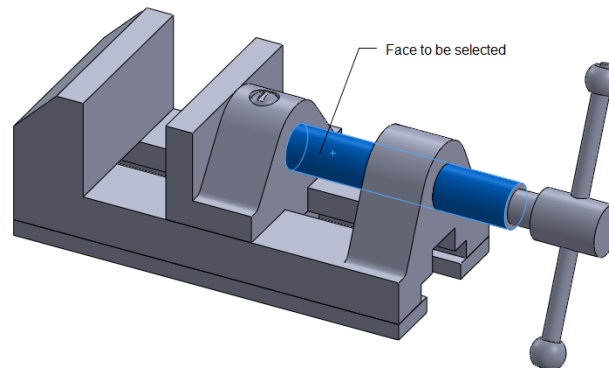

Figure 20-22 The face to be selected
3. Click in the **Motor Location** selection box of the **Component/Direction** rollout and select the cylindrical face of the Jaw Screw, refer to Figure 20-22. The selected face is also be added in the **Motor Direction** selection box.